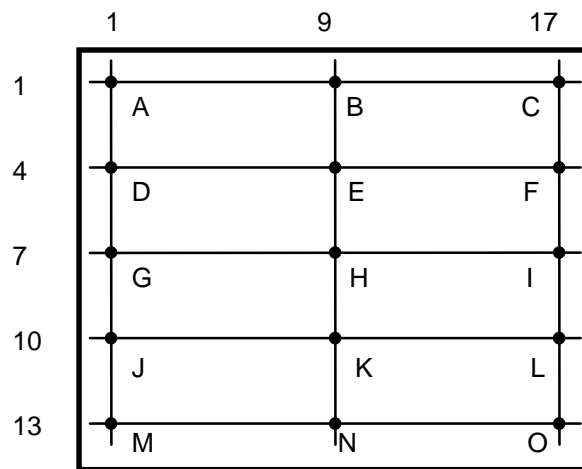

Fig.10-7 Adjustment position of Convergence
b. Open Menu(S), TAG B "H.S.CONVER" , and adjusted so that misconvergence of the horizontal direction may become the minimum in G of the Fig.10-7 and H and the I point.
c. Open Menu(S), TAG C "H.CONVER SAW T", and adjusted so that misconvergence of the horizontal direction may become the minimum in D of the Fig 10-7 and E and F point. Open Menu(S), TAG C "V.CONVER SAW T", and adjusted so that misconvergence of the vertical direction may become the minimum.
d. Open Menu(S), TAG C "H.CONVER PARA T", and adjusted so that misconvergence of the horizontal direction may become the minimum in A of the Fig 10-7 and B and C point. Open Menu(S), TAG C "V.CONVER PARA T", and adjusted so that misconvergence of the vertical direction may become minimum.
e. Open Menu(S), TAG C "H.CONVER SAW B", and adjusted so that misconvergence of the horizontal direction may become the minimum in J of the Fig 10-7 and K and L point. Open Menu(S), TAG C "V.CONVER SAW B", and adjusted so that misconvergence of the vertical direction may become minimum.
f. Open Menu(S), TAG C "H.CONVER PARA B", and adjusted so that misconvergence of the horizontal direction may become the minimum in M of the Fig 10-7 and N and O point. Open Menu(S), TAG C "V.CONVER PARA B", and adjusted so that misconvergence of the vertical direction may become minimum.